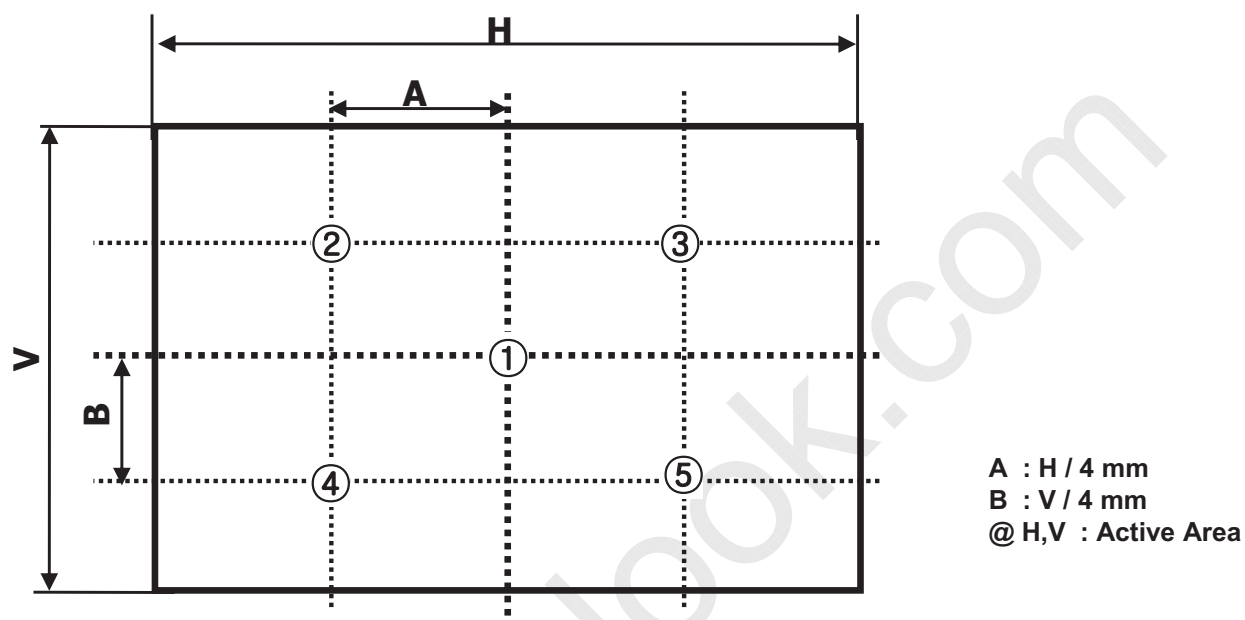

FIG. 2 5 Points for Luminance Measure
n = the Position number(1, 2, 3, 4, 5). For more information, see FIG 2.
2. Surface luminance is determined after the unit has been 'ON' and 1Hour after lighting the backlight in a dark environment at 25±2°C. Surface luminance is the luminance value at center 1-point across the LCD surface 50cm from the surface with all pixels displaying white. For more information see the FIG. 2.
For more information, see the FIG. 2.